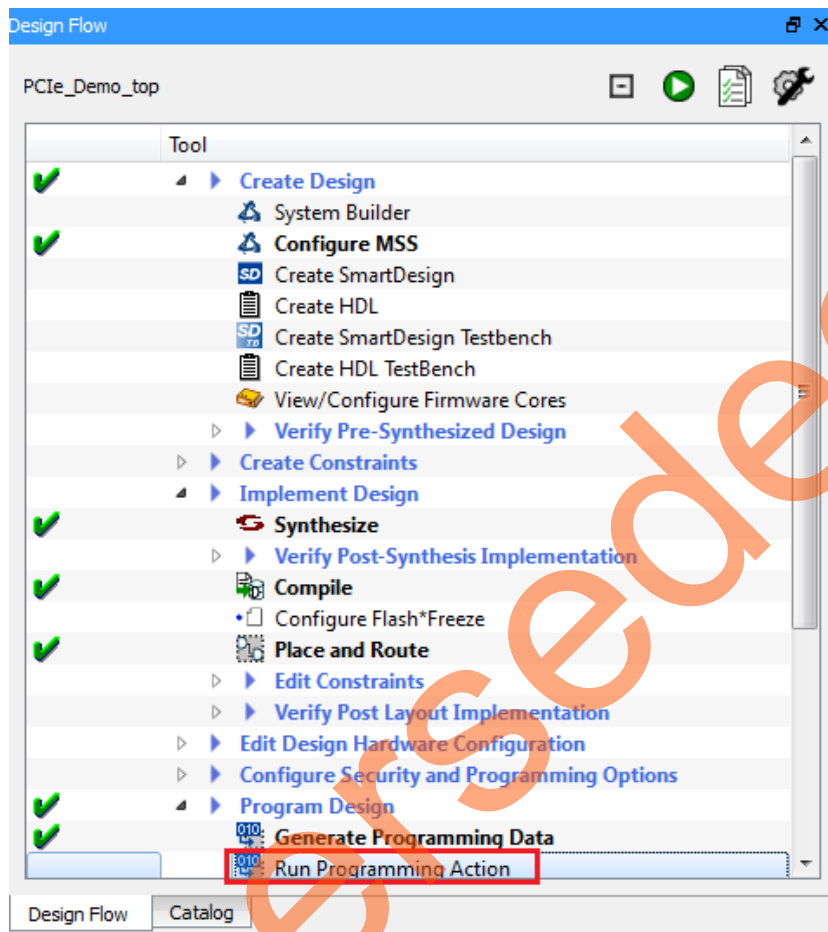

Figure 45 • Run Programming Action
5. To program the IGLOO2 device, double-click **Run Programming Action** in the **Design Flow** window as shown in Figure 45.